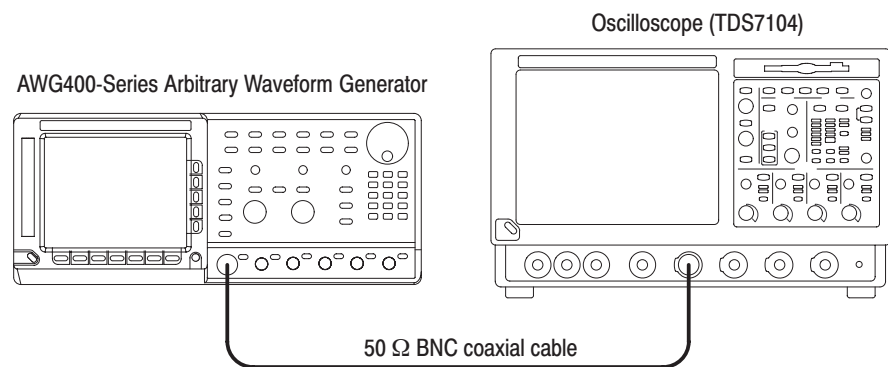

Figure 4–7: Continuous mode initial test hookup (Instrument with option 05)
- a. Use a 50 Ω coaxial cable to connect the AWG400-Series CH1 output connector to the oscilloscope CH1 input connector (see Figure 4–7).